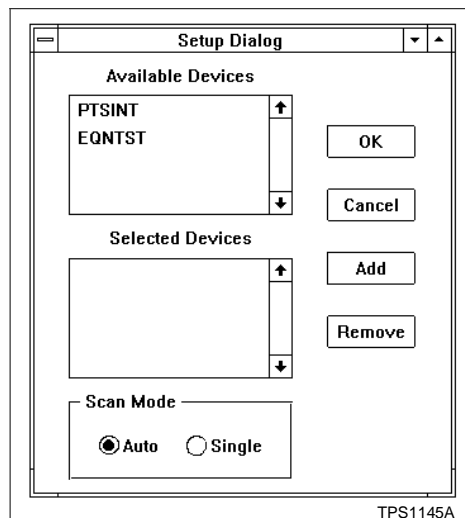

Figure 3-11. Setup Dialog Box
1. From the main menu select *Diagnostics*, then *Setup* (**CTRL-T**). A dialog box similar to Figure 3-11 appears.